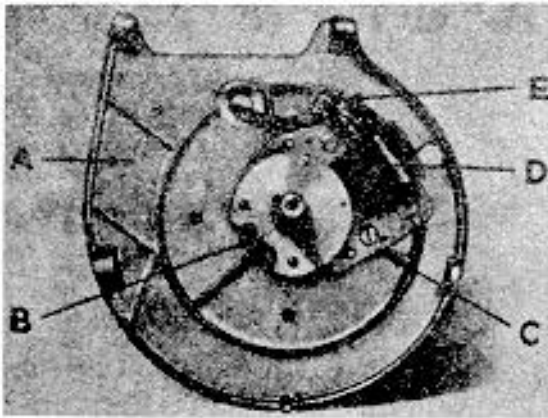

Figure 11
- a. The K141 engine is equipped with the Phelon magneto as shown in figure 11.